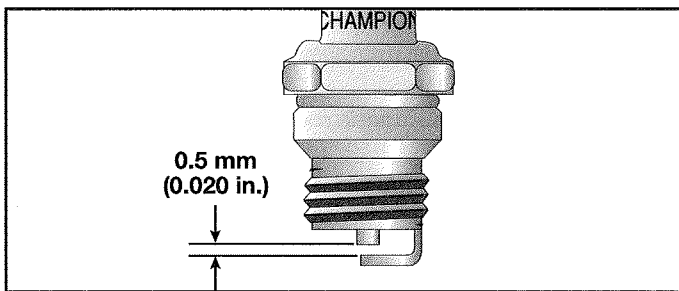

Fig. 29
3. Replace cracked, fouled or dirty spark plug. Set the air gap at 0.5 mm (0.020 in.) using a feeler gauge (Fig. 29).